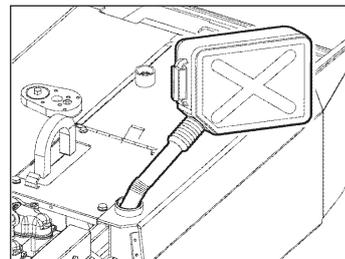

Fig. BA4 Refuelling using a fuel hose
- ➔ Refill with diesel and check the fuel display filling level as well. Use a funnel or a fuel hose for the refilling (Fig. BA4).